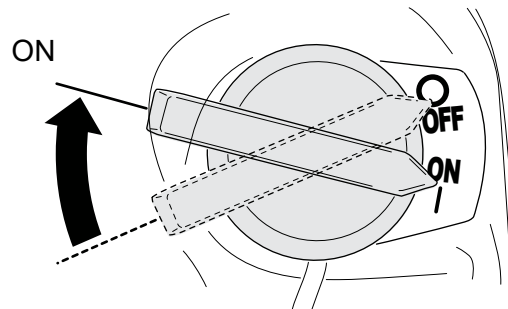

Figure 19. Engine Switch ON
5. Turn the engine switch to the "ON" position (Figure 19).